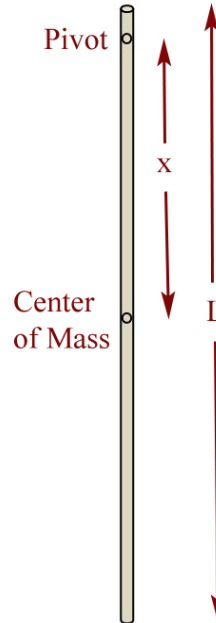

Figure 3: Rod
For the rod of length, L , the pivot point is the hole near the end (see Fig. 3), a distance " x " from the center of mass. Combining the rotational inertia of a thin rod about its center of mass ($I_{\text{rod}} = \frac{1}{12}ML^2$) with the Parallel Axis Theorem and Equation (1) yields